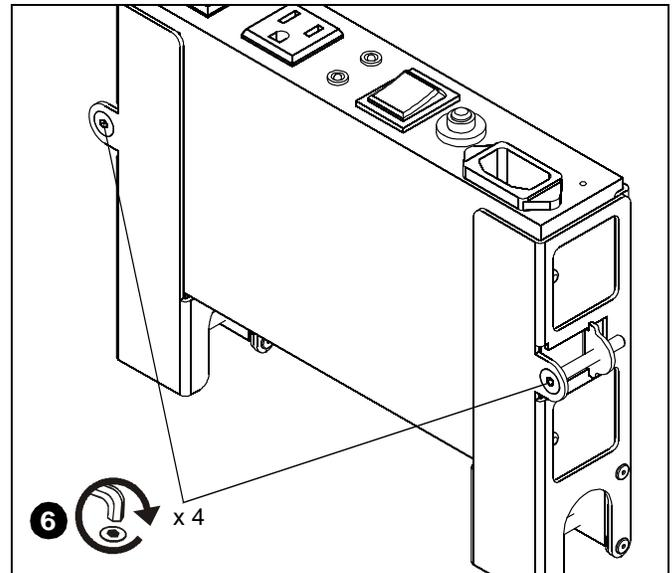

Figure 3
6. Tighten the brackets against the surge adapter by tightening the flat head cap screws with the 1/8" hex key (D). (See Figure 3)